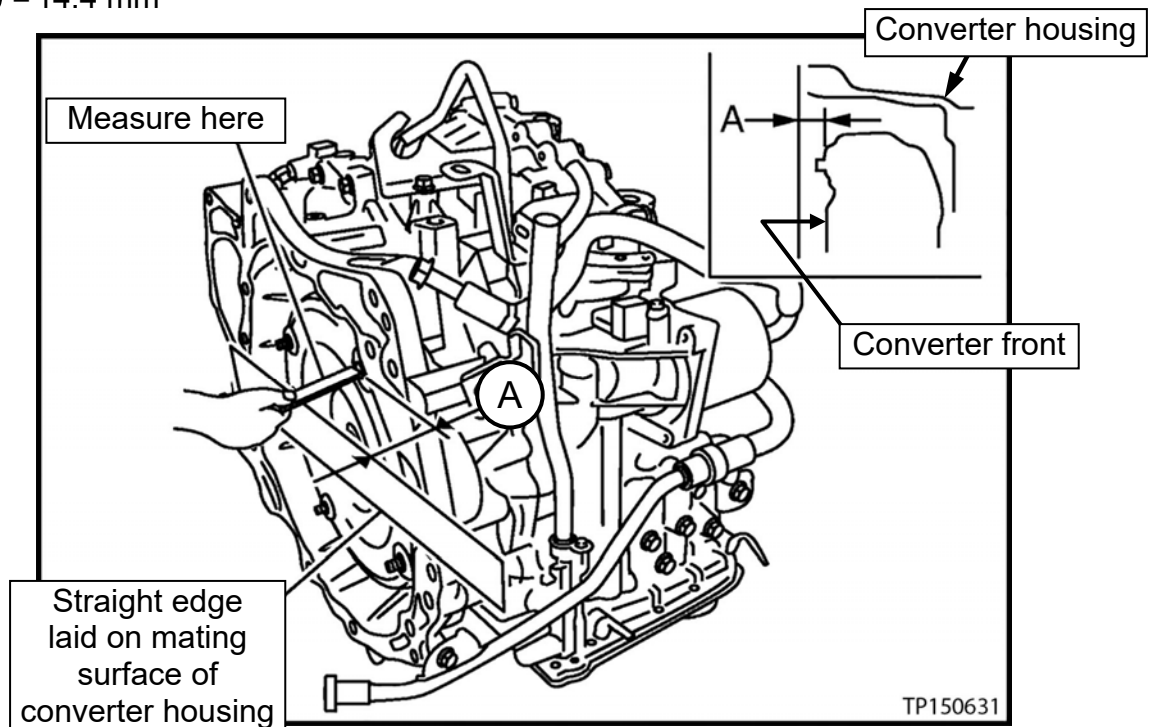

Figure 102
- Verify the torque converter is installed at the proper depth (see Figure 102).
- (A) = 14.4 mm